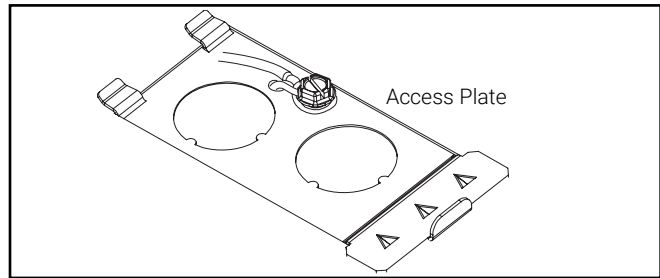

Figure 4.
- Remove electrical access plate and remove necessary knockouts from access plate for attachment of electrical supply cable (Figure 4. and Figure 5.).
Grounding conductor (if insulated) to be stripped min. 1". Insert end of wire into small hole. Wrap wire under and around head of screw counter-clockwise (Figure 4.). Tighten screw.